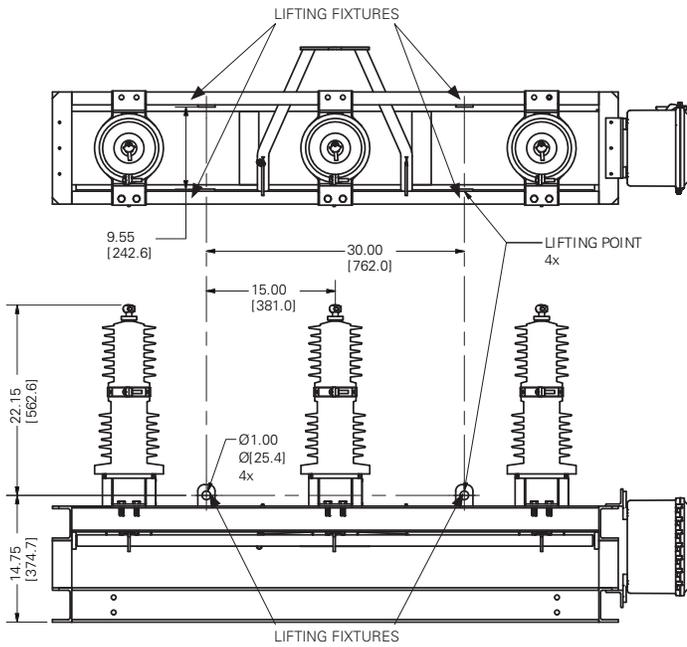

Figure 7. 15 kV lifting fixtures.
When lifting the switch during installation, customers should utilize the four (4) 1" diameter lifting fixtures as shown in drawings. Spreader bars and/or elongated straps are recommended to prevent damage during installation. For detailed planning please utilize the dimensions as shown in Figures 7, 8 and 9 for your specific switch needs.